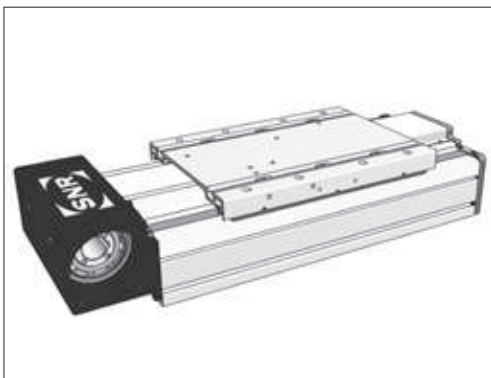

Figure 5.6 ___ AXDL with toothed belt drive
- 3 drive versions – toothed belt drive, screw drive or toothed belt / Ω - drive (Figures 5.6 up to 5.8)